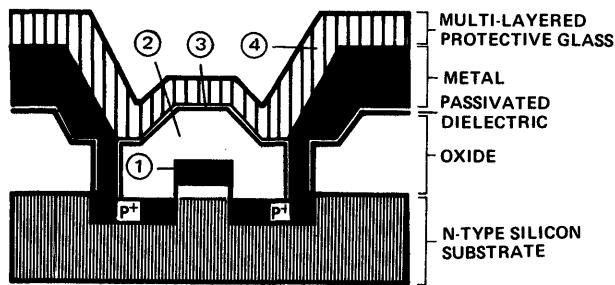

FIGURE 5.
Because the gate dielectric is protected by poly-silicon and the overlying layers of oxides, it is possible to reliably package silicon gate devices in silicone packages. Cross-sections of metal gate and silicon gate devices are shown in Figure 5. The metal gate devices are protected by two layers: aluminum metallization and glass passivation. On the other hand, the silicon gate device is protected by four layers: (1) thick poly-